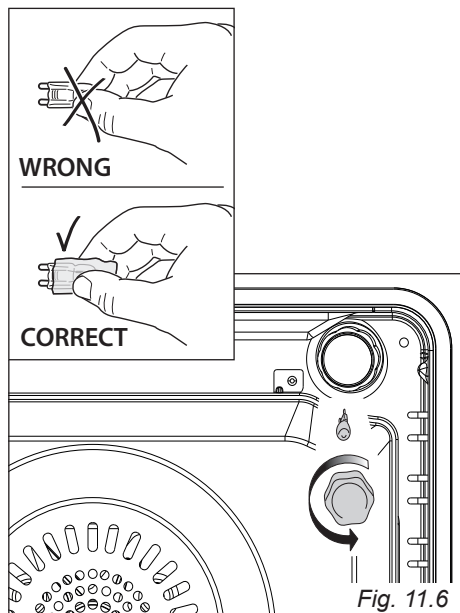

Fig. 11.6
- Remove the protective cover (fig. 11.6 - 11.7).